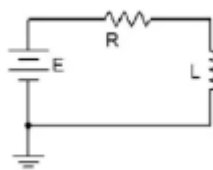

Figure 1: RL Circuit
- Solve the circuitry given in Figure 1 for V_o with given parameters in the Table 1, and fill the "Calculated V_o ", and "Calculated I_o " columns.
- Built the circuitry given in Figure 1 with the R_1 as $1k\Omega$, and L_1 as given values in Table 1.